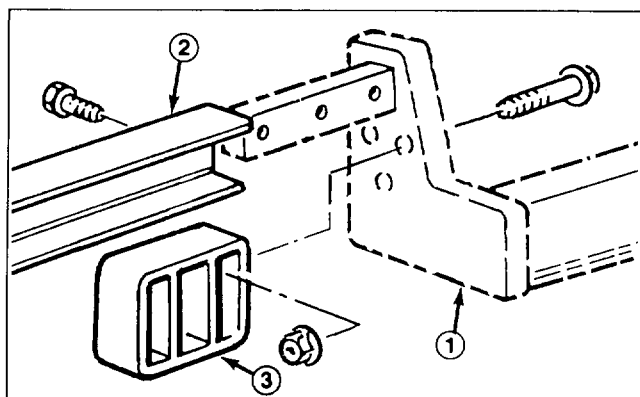

Figure 2
2. Mount a rear cradle to each lift arm with (3) 3/8 - 16 x 1-3/4" capscrows 3/8 - 16 and flange nuts as shown in Figure 2. Torque fasteners to 20-25 ft-lb.
3. Slide carrier frame onto lift arms aligning mounting holes. Secure each side of carrier frame to lift arms with (3) 1/2 - 13 x 1-1/2" lg. capscrews. Torque capscrews to 70-80 ft-lb. (Fig. 2).